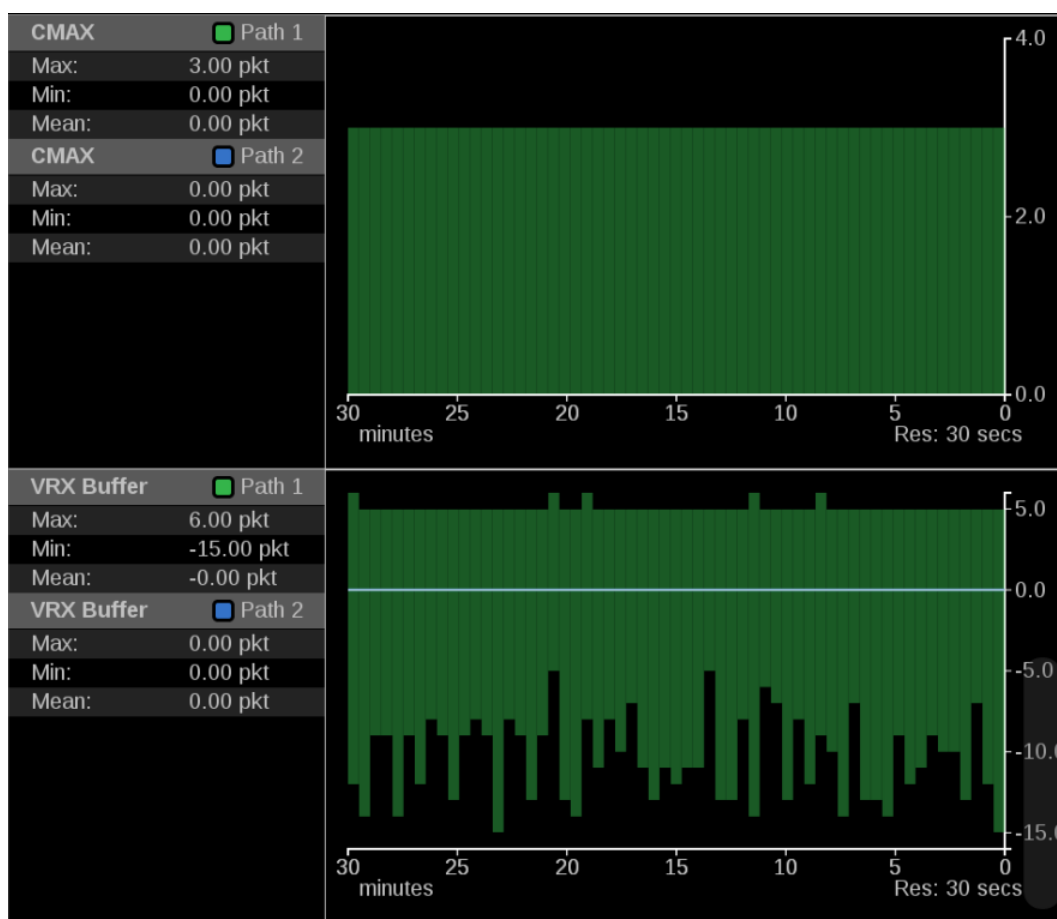

Figure 173: IP Graphs application – CMAX and VRX Buffer graph
- A network compatibility model to regulate the burst characteristics of senders, which promotes the compatibility with the switches. The **CMAX** section provides a trend graph for this type of modeling. (See Figure 173.)